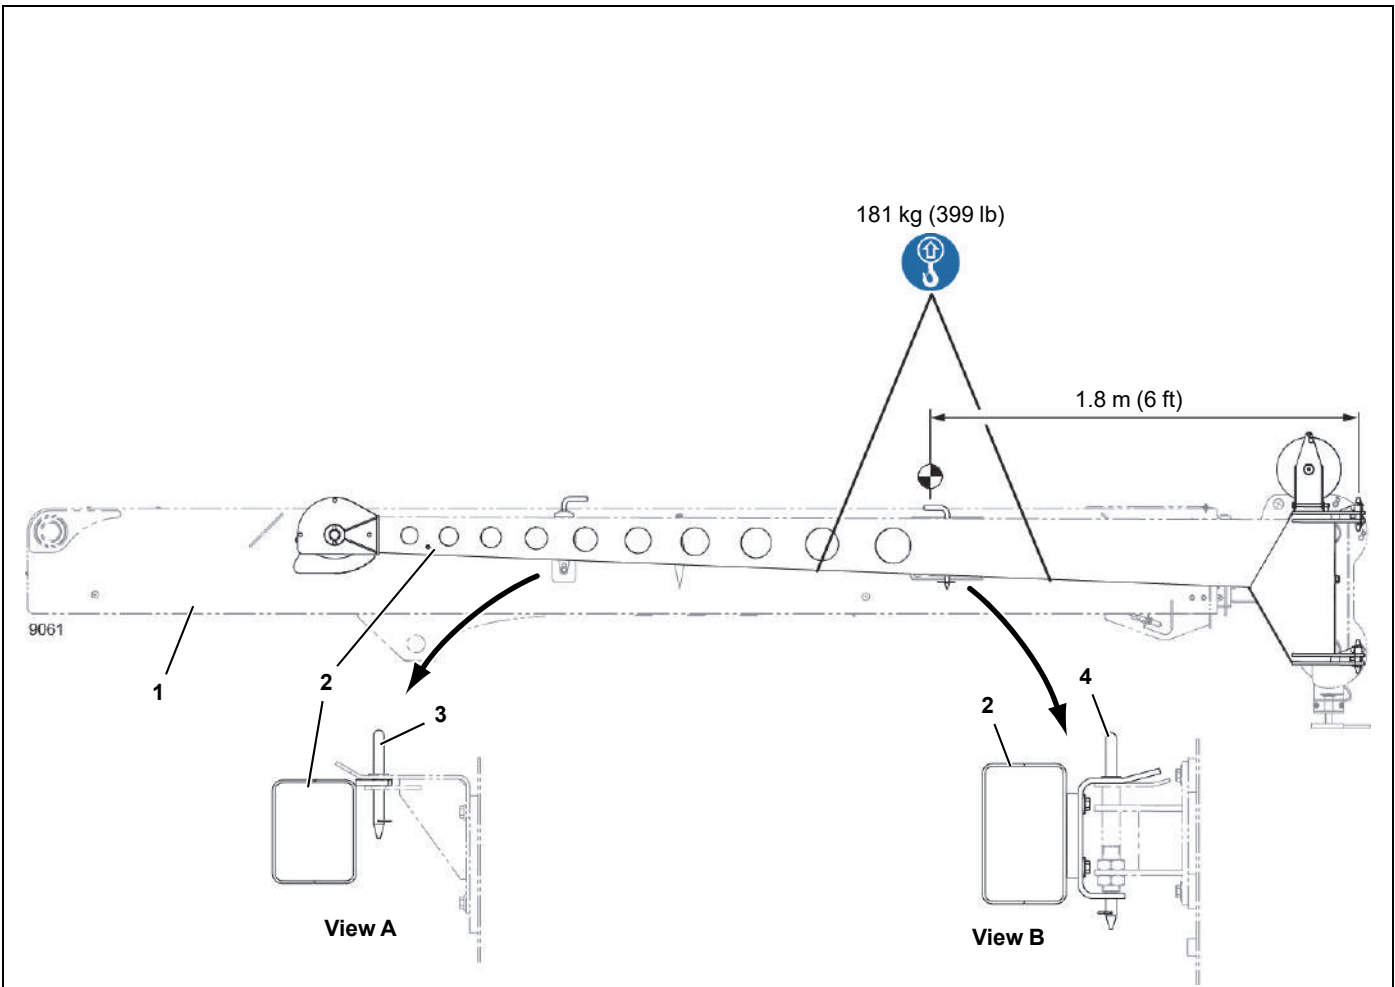

FIGURE 11-1
The following instructions assume that the boom extension is in the stored position on the right side of the boom (Figure 11-1).
- An assist crane or overhead hoist capable of handling the load specified in Figure 11-1
1. If not already done, store the boom extension (2). See the instructions in Section 5 of the CD15 Operator Manual.
2. Lower the boom (1) to horizontal.
5. Install the lifting slings around the boom extension (2) and connect them to the hook of the assist crane. The center of gravity is located at the dimension given in Figure 11-1.
1. Lower the boom (1) to horizontal.
4. Install the lifting slings around the boom extension (2) and connect them to the hook of the assist crane. The center of gravity is located at the dimension given in Figure 11-1.
8. Tag the hydraulic hoses (2, View A) for proper installation and disconnect them from the fittings (3).
11. Securely block the boom lift cylinder (5, View D) so it cannot fall when the rod end pin (7) is removed.
12. Install the lifting slings around the boom (1) and connect them to the hook of the assist crane. The center of gravity is located at the dimension (D1 or D2) given in Figure 11-1.
14. Remove the keeper pin (6, View D) and the rod end pin (7). Use a brass drift pin to hammer the shaft out.
15. Remove the keeper bolt (8, View B) and the boom pivot pin (9). Use a brass drift pin to hammer the shaft out.
1. Install the lifting slings around the boom (1) and connect them to the hook of the assist crane. The center of gravity is located at the dimension (D1 or D2) given in Figure 11-1.
4. Install the boom pivot pin (9, View B) and retain it with the keeper bolt (8), flat washer, and nut.
5. Install the rod end pin (7, View D) and retain it with the keeper pin (6), flat washer, and screw.
9. Connect and properly tighten the hydraulic hoses (2, View A) to the hydraulic fittings (3).